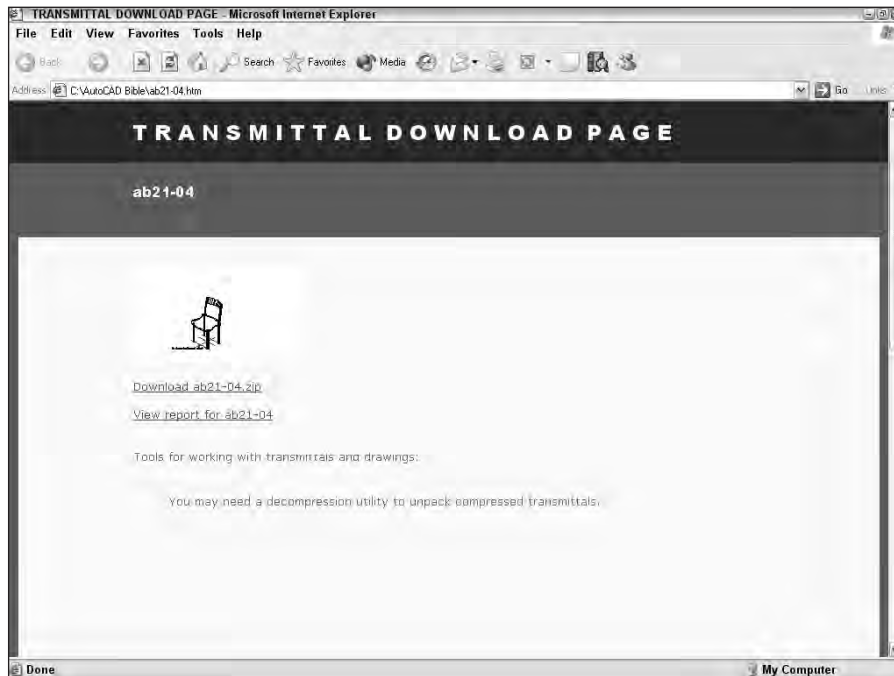

Figure 28-2: The Web page created by eTransmit
- ♦ **Make Web Page Files** creates a Web page with a link to the transmittal files. You can post this Web page on an intranet or tell recipients the Web page URL so they can download the files from the Web page. See Figure 28-2 for an example of the Web page this feature creates.